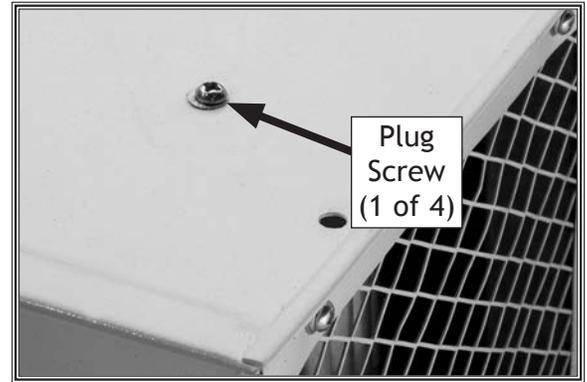

Figure 13. Plug screw.
2. Remove (4) plug screws (see Figure 13).